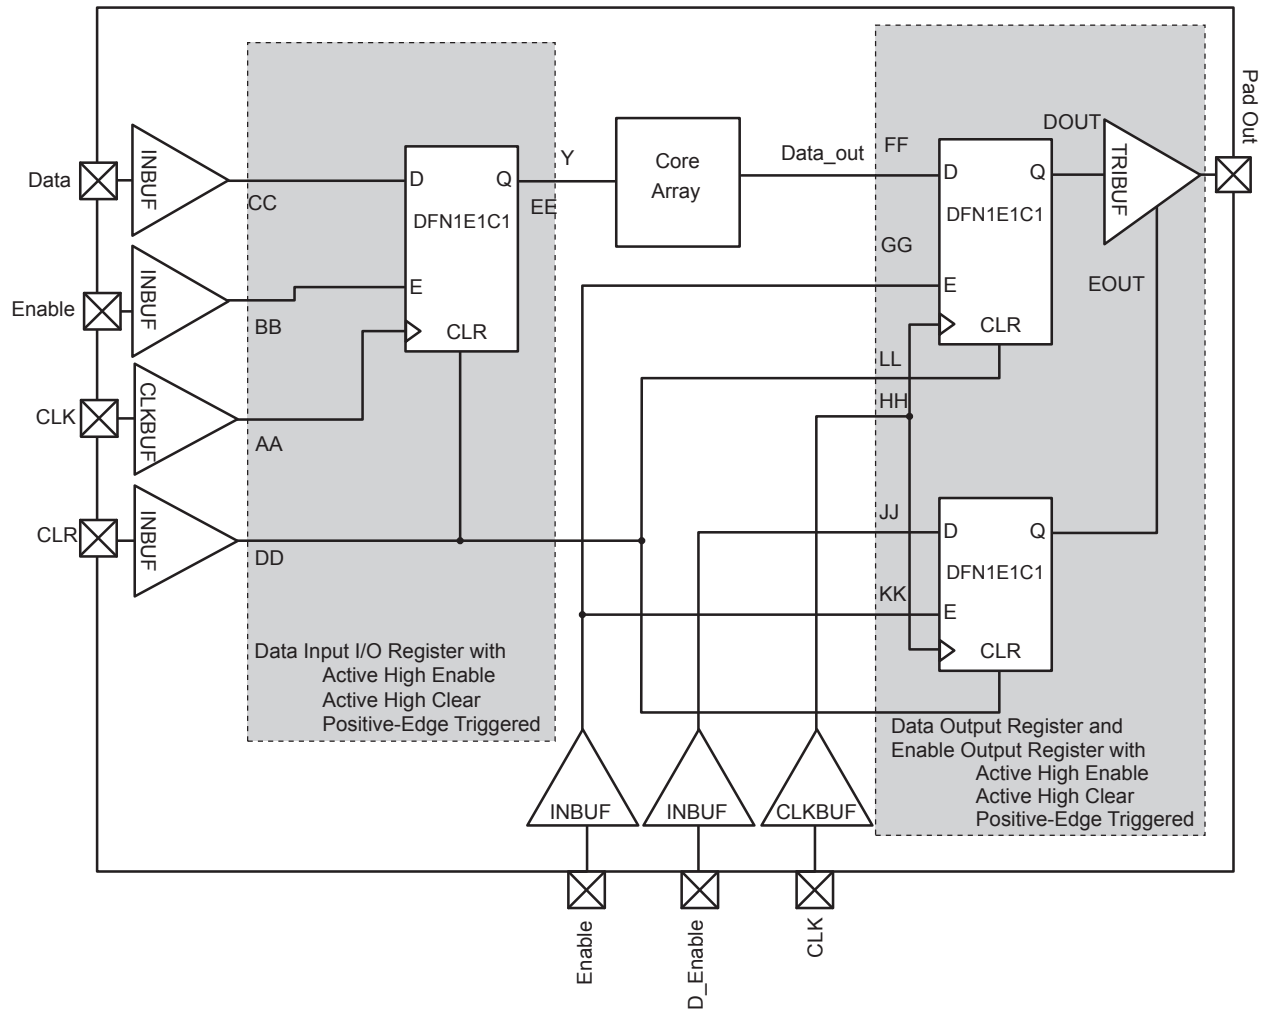

**Figure 2-16 • Timing Model of the Registered I/O Buffers with Synchronous Enable and Asynchronous Clear**
*Note:* \*See Figure 2-16 on page 2-55 for more information.